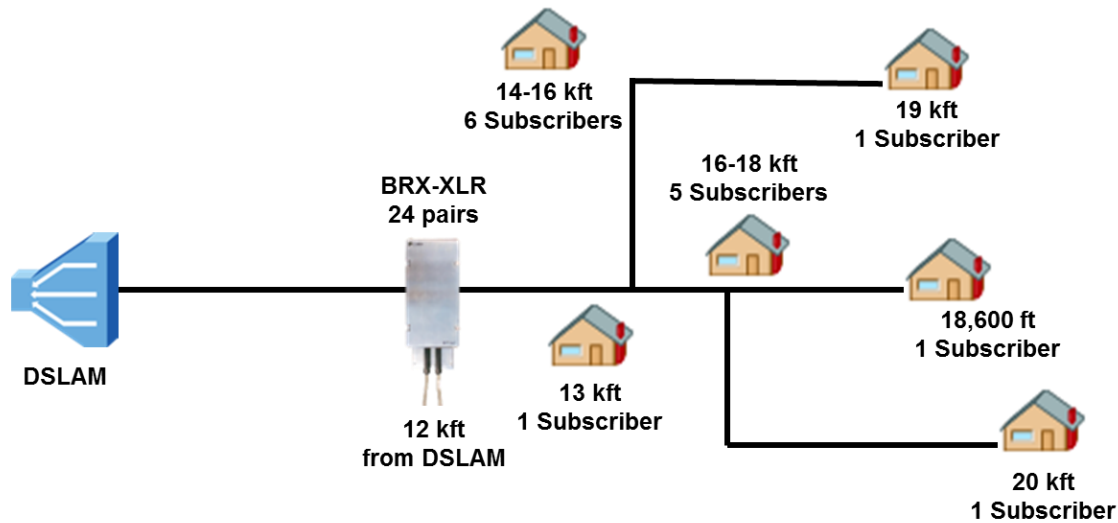

Figure 4: Image of Typical Deployment of 24-pair pedestal
A typical deployment will look like the image in Figure 4 below:
- 2) Once a BRX-XLR enclosure has been selected and positioned according to the BRX-XLR Placement Instructions document, it is important to determine if ALL the subscribers downstream will benefit from the amplification circuitry. Any subscriber that is located within **2,000 feet** from the BRX-XLR would be better served by a BRX-BYPASS-TEST card (set to Bypass mode) instead of an amplifier (see BRX-BYPASS-TEST Module description below). An example of this would be the first subscriber past the BRX-XLR in Figure 4 that is located at 13kft from the DSLAM and only 1,000 feet away from the BRX-XLR.